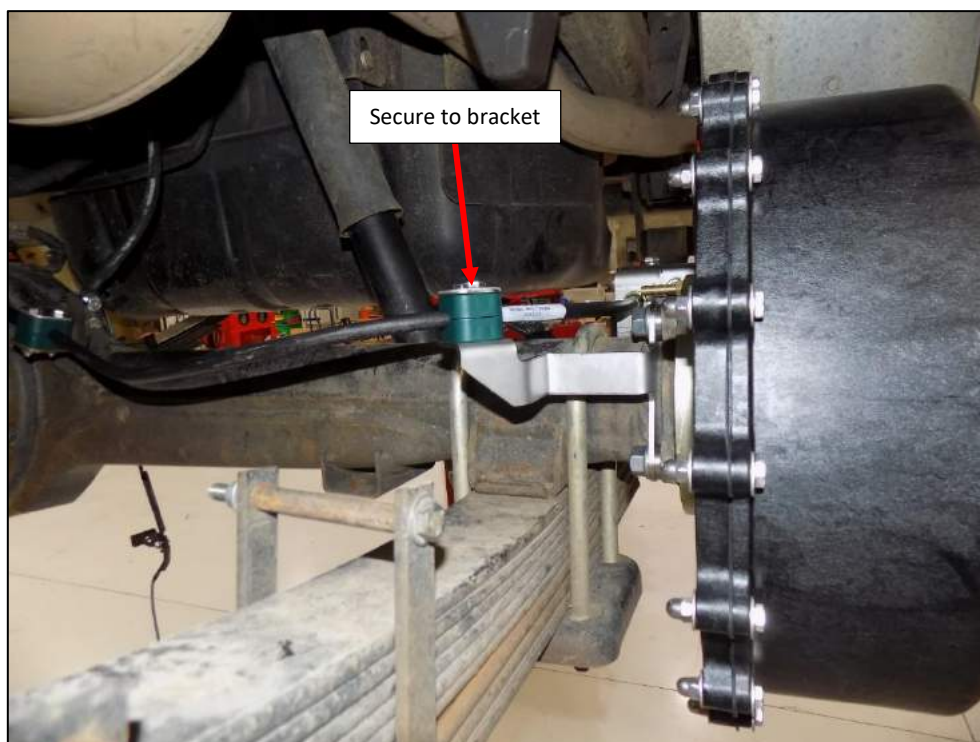

Figure 40
30. **[Axle Flange mount type bracket].** The LH-1 clamp is a mirror of the RH-1 clamp. The LH-1 cable clamp attaches to the bracket mounted off the brake mounting studs (Figure 40). Do not tighten